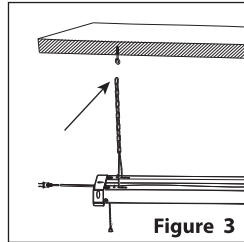

Figure 3
3. Install lamp to ceiling by hanging the chain to pre-mounted screw-hooks on ceiling (See Figure 3).